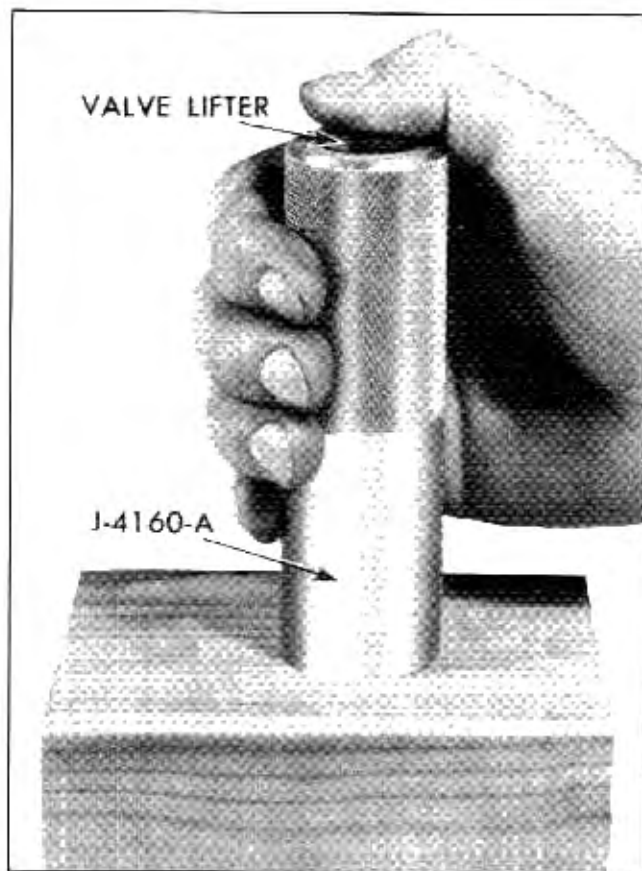

Fig. 6-49 Removing Stuck Plunger
2. Invert lifter and allow push rod seat and plunger to slide out of body. If plunger sticks in body, place lifter in large end of Hydraulic Valve Lifter Plunger Remover, J-4160-A, with push rod end of lifter downward. Hold tool firmly in hand with thumb over lifter body and sharply strike the tool against a block of wood (Fig. 6-49) until plunger falls out. **NOTE:** It may be necessary to soak a lifter having a stuck plunger in cleaning solvent for several minutes in order to remove the plunger.